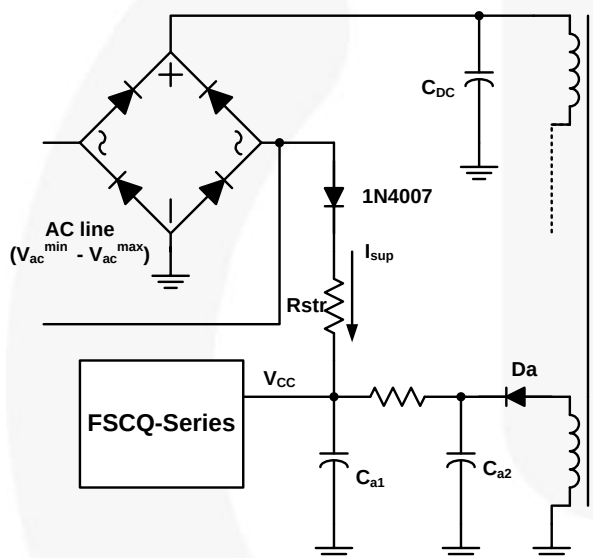
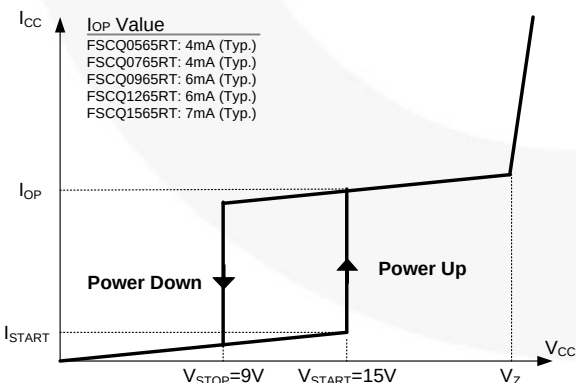

Figure 25. Startup Circuit
Figure 26. Relationship between Operating Supply Current and  $V_{CC}$  Voltage
**1. Startup:** Figure 25 shows the typical startup circuit and the transformer auxiliary winding for the FSCQ series. Before the FSCQ series begins switching, it consumes only startup current (typically 25  $\mu$ A). The current supplied from the AC line charges the external capacitor ( $C_{a1}$ ) that is connected to the  $V_{CC}$  pin. When  $V_{CC}$  reaches the start voltage of 15 V ( $V_{START}$ ), the FSCQ series begins switching and its current consumption increases to  $I_{OP}$ . Then, the FSCQ series continues normal switching operation and the power required is supplied from the transformer auxiliary winding, unless  $V_{CC}$  drops below the stop voltage of 9 V ( $V_{STOP}$ ). To guarantee stable operation of the control IC,  $V_{CC}$  has under-voltage lockout (UVLO) with 6 V hysteresis. Figure 26 shows the relationship between the operating supply current of the FSCQ series and the supply voltage ( $V_{CC}$ ).